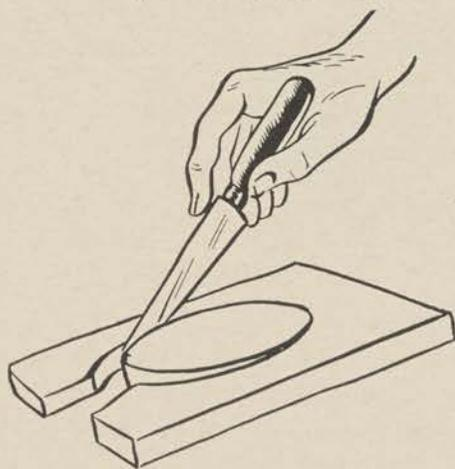

Figure 115.
*b.* The next step is to build the base. Roll out a large slab of clay about  $\frac{1}{2}$  inch thick and cut the base out of this (fig. 115). Use a pattern to guide your knife. Roughen the rim of the base by scratching it with any pointed tool. This is known as "checking" or "small cutting" and is done to make a firmer joint between bottom and sides.